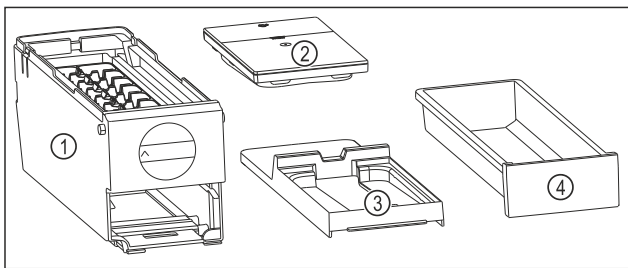

Fig. 199 Components of the EasyTwist-Ice
- ▶ EasyTwist-Ice is dismantled into four parts. (see Fig. 199)
- ▶ Only dismantle the EasyTwist-Ice into the components shown. (see Fig. 199)
- ▶ Clean the EasyTwist-Ice body Fig. 199 (1) as a whole.